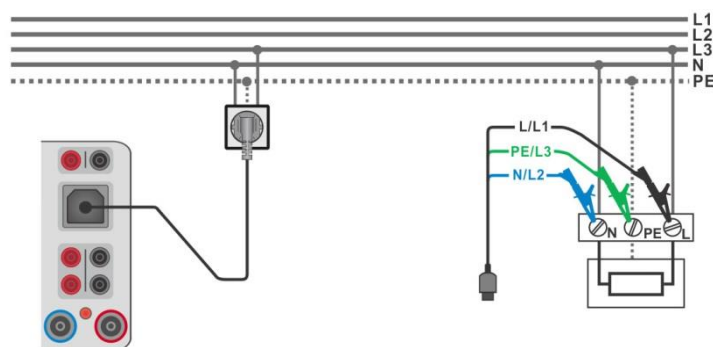

Figure 6.87: Connection of Plug test cable or 3-wire test leads
- › Connect 3-wire test lead or Plug test cable to the object under test, see **Figure 6.87**.